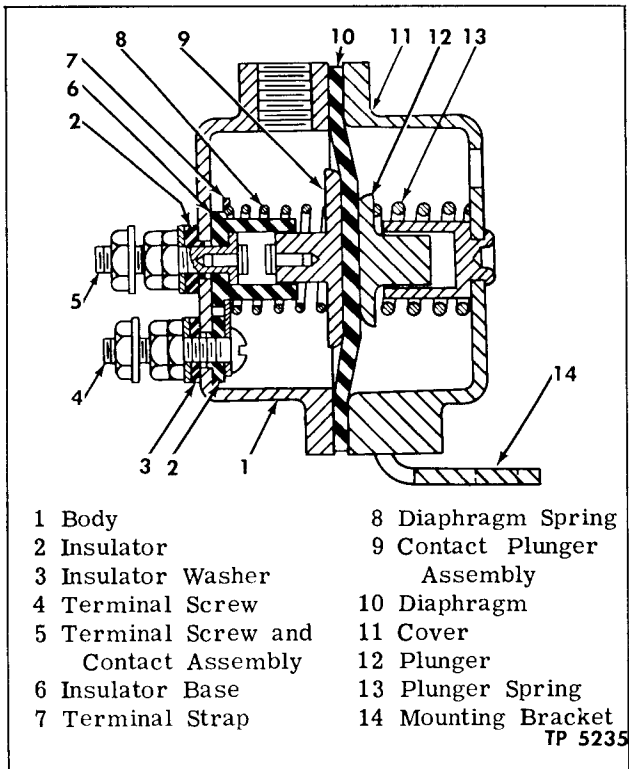

Figure 13—Low Air Pressure Switch (Midland-Ross)
The low air pressure switch is designed to complete an electrical circuit when pressure in air system drops below 54 pounds. Completed circuit illuminates a tell-tale light on instrument panel. The switch shown in figure 13 is in normal (cut-out) position with 54 pounds of air or more in system. Pressure is depressing the diaphragm, keeping the contacts separated. When pressure drops, spring on non-pressure side of diaphragm will overcome spring force on pressure side and close contacts. Closed contacts complete circuit and illuminate tell-tale. Light will stay on until pressure builds up to approximately 54 pounds.
Disassembly (Fig. 13)
Assembly (Fig. 13)
1. Assemble terminal screws, insulator bushing, insulators, and terminal strap in body with parts positioned as shown in figure 13.